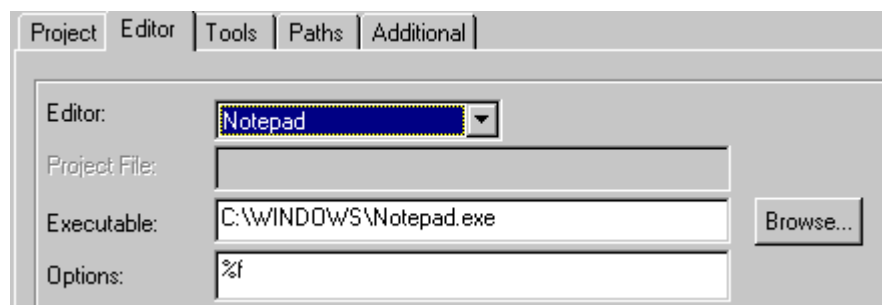

Figure 4-6. Editor Configuration for Notepad
6. The **Options** edit box contains options used for error feedback in the MCUez assembler and linker. After selecting Notepad, the shell automatically enters the appropriate options. **Figure 4-6** shows a typical Notepad configuration.